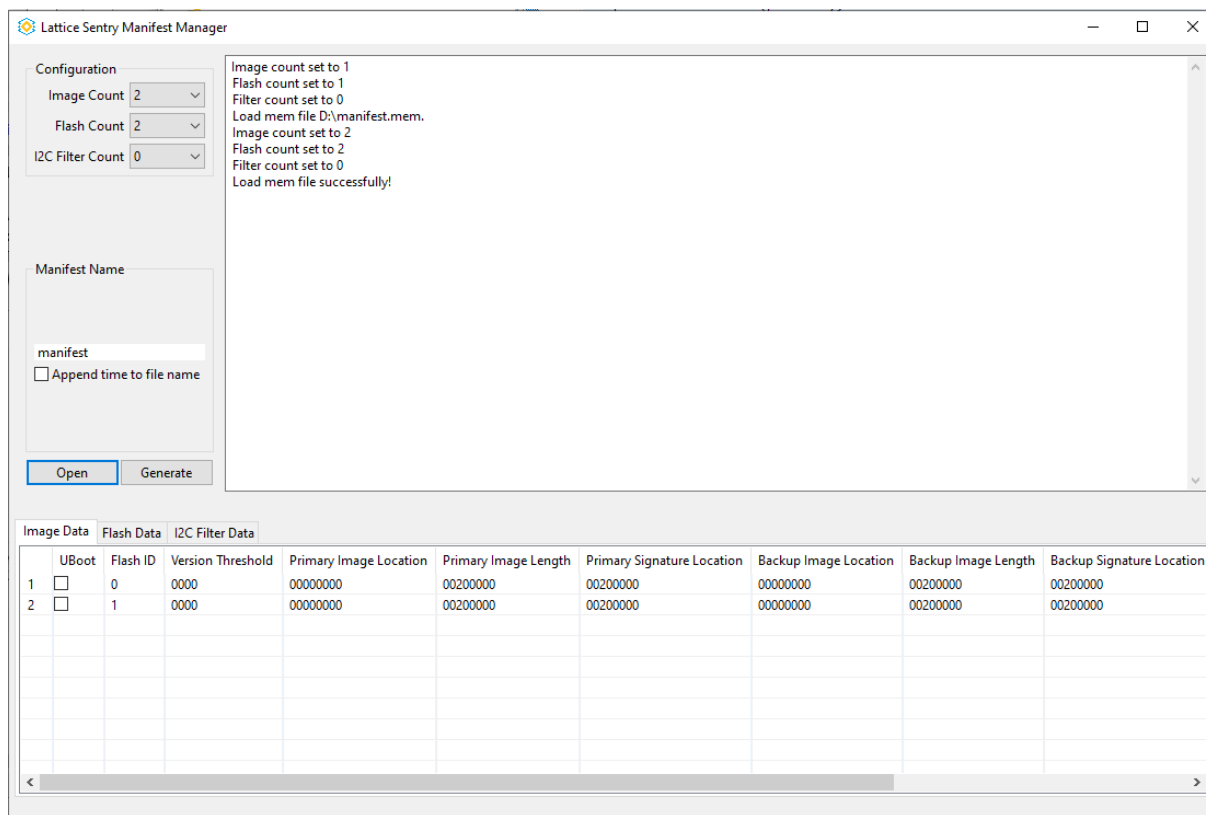

Figure A.1. Manifest Manager
2. Click **Open** and select `<path>\bitstreams\manifest.mem`. The Manifest Manager, as shown in Figure A.1, allows you to: